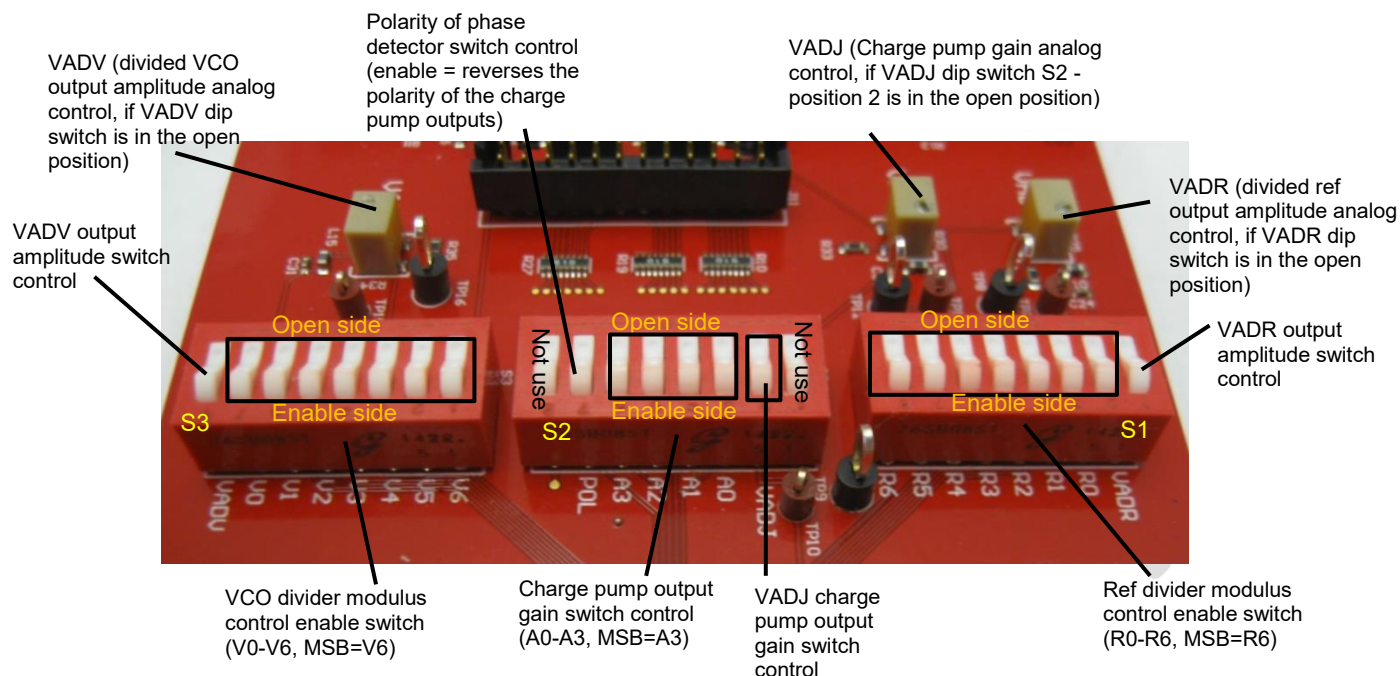

Figure 3. Close up view of the control dip switches on the Evaluation board
12. The POL dip switch (S2) - position 7 (see Figure 3), allows the polarity of the charge pump to be reversed. This is useful to unlock the loop momentarily.